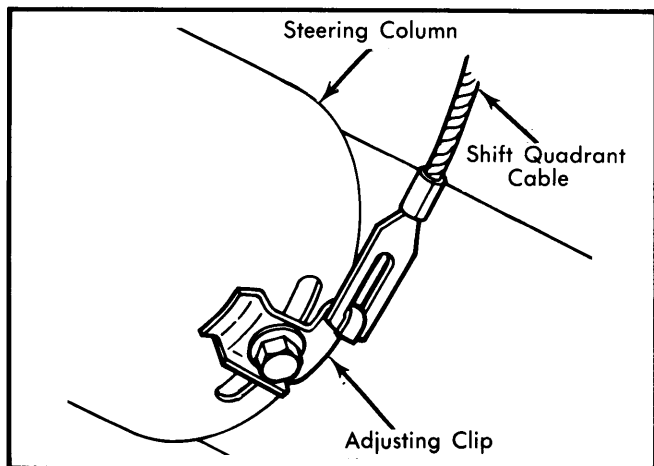

Fig. 1 Shift Quadrant Cable Removal
**Disassembly** — 1) With front wheels in straight ahead position, disconnect battery ground cable. Cover painted areas of column. Remove lower finish panel and package tray (if equipped). On column shift models, disconnect shift quadrant pointer cable. See Fig. 1. Remove steering wheel.